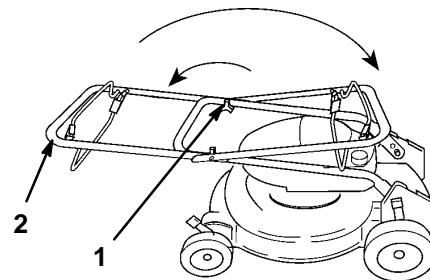

Figure 2
1. Loosen the handle knobs and lift the top handle half in an arc until the handle halves are in line and nest together (Fig. 2).